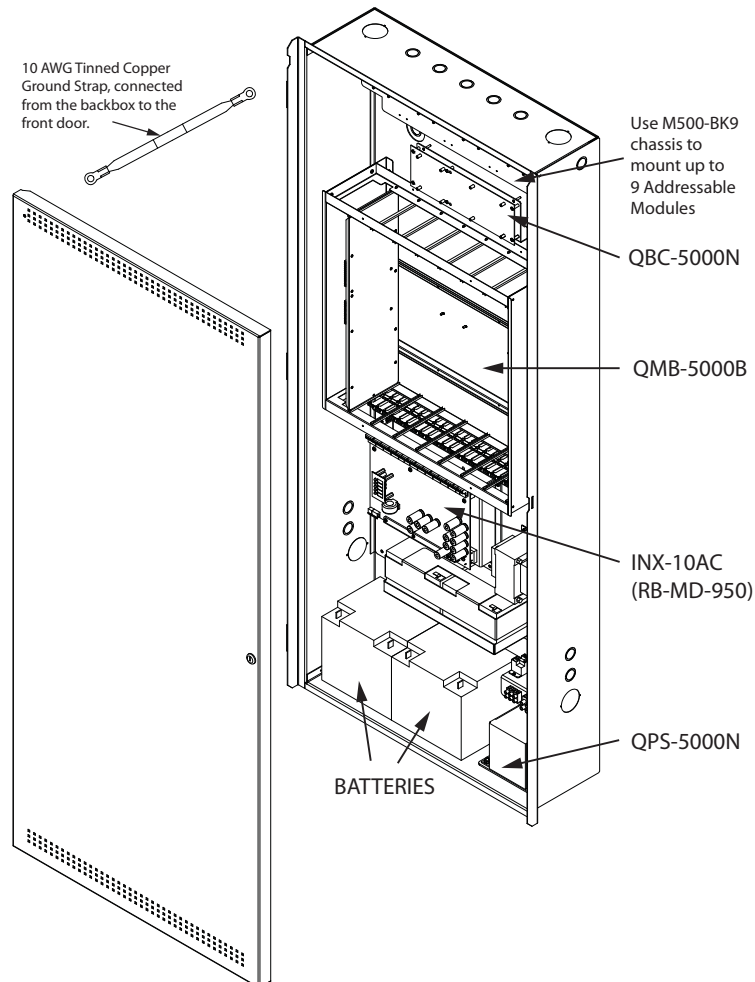

Figure 4 Audio System Installation in the BBX-MNSXP(R) with CH-993 Internal Chassis
3. Be sure to connect a solid earth ground from the building system ground to a cold water pipe to the chassis earth ground mounting lug and connect the ground strap from the door to the ground screw in the backbox, see Figure 4 below.